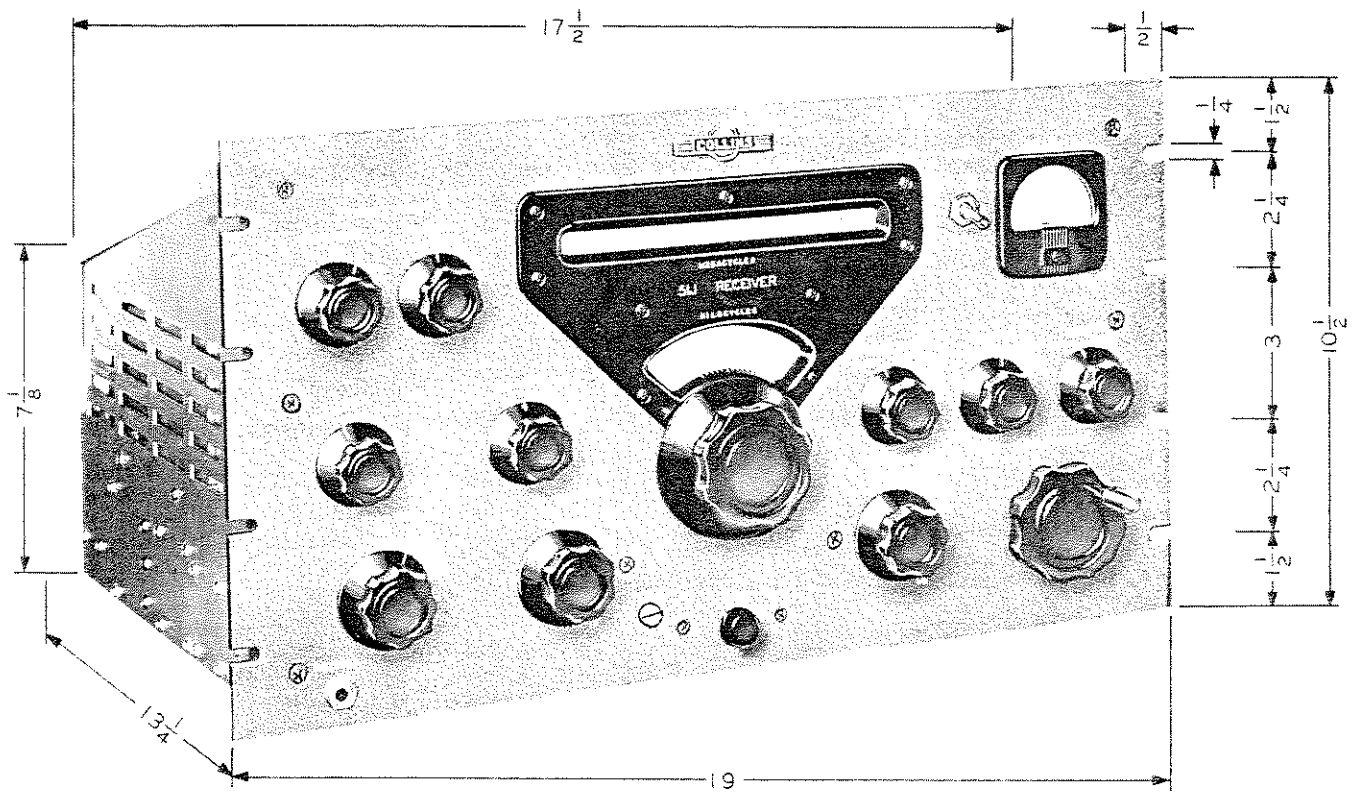

Figure 2-1 5LJ Receiver, Mounting Dimensions
2.2.1. GENERAL. - The receiver is intended primarily for rack mounting. Refer to figure 2-1 for outline and mounting dimensions. The front panel is slotted for mounting at 1-1/2, 3-3/4, 6-3/4, and 9 inches from the bottom. The panel height is 10-1/2 inches; the panel width is 19 inches for rack mounting.